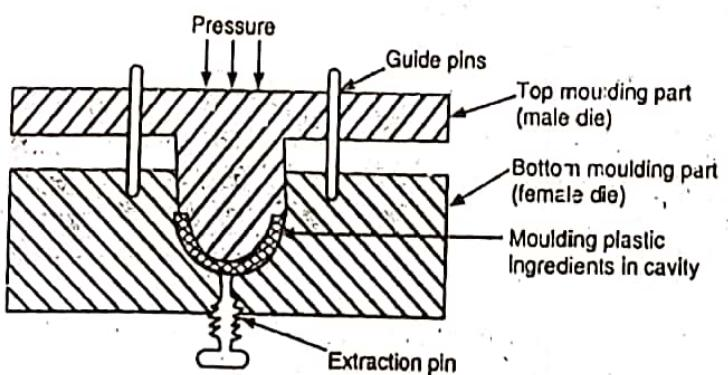

Fig. 17. Compressing moulding of plastics.
1. Compression moulding is a method applied to both thermoplastic and thermosetting resins. The predetermined quantity of plastic ingredients in proper proportions get filled between the two half-pieces of mould (see Fig. 17), which are capable of being moved relative to each other. Heat and pressure are then applied according to specifications. The cavities get filled with fluidised plastic. Two halves are closed very slowly. Finally, curing is done either by heating (in case of thermosetting) or cooling (in case of thermoplastics). After curing, the moulded article is taken out by opening the mould parts.